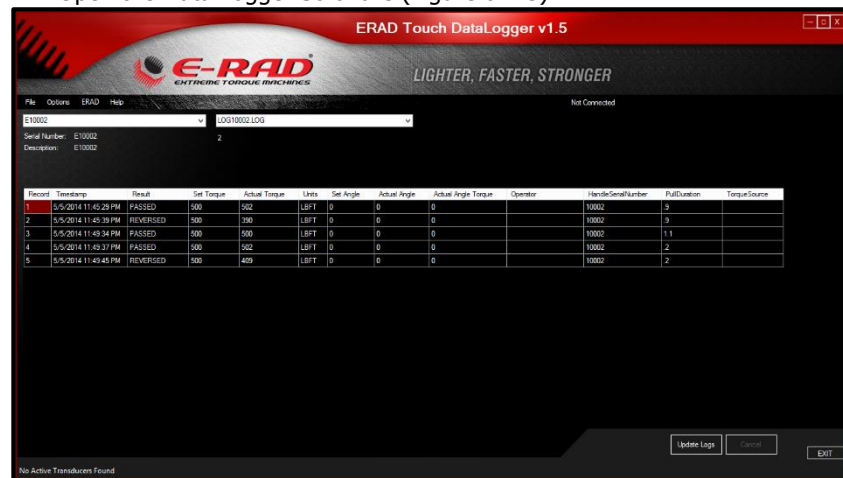

Figure 6.2-3: Datalogger Main Screen
4. Open the Data Logger Software (Figure 6.2-3).